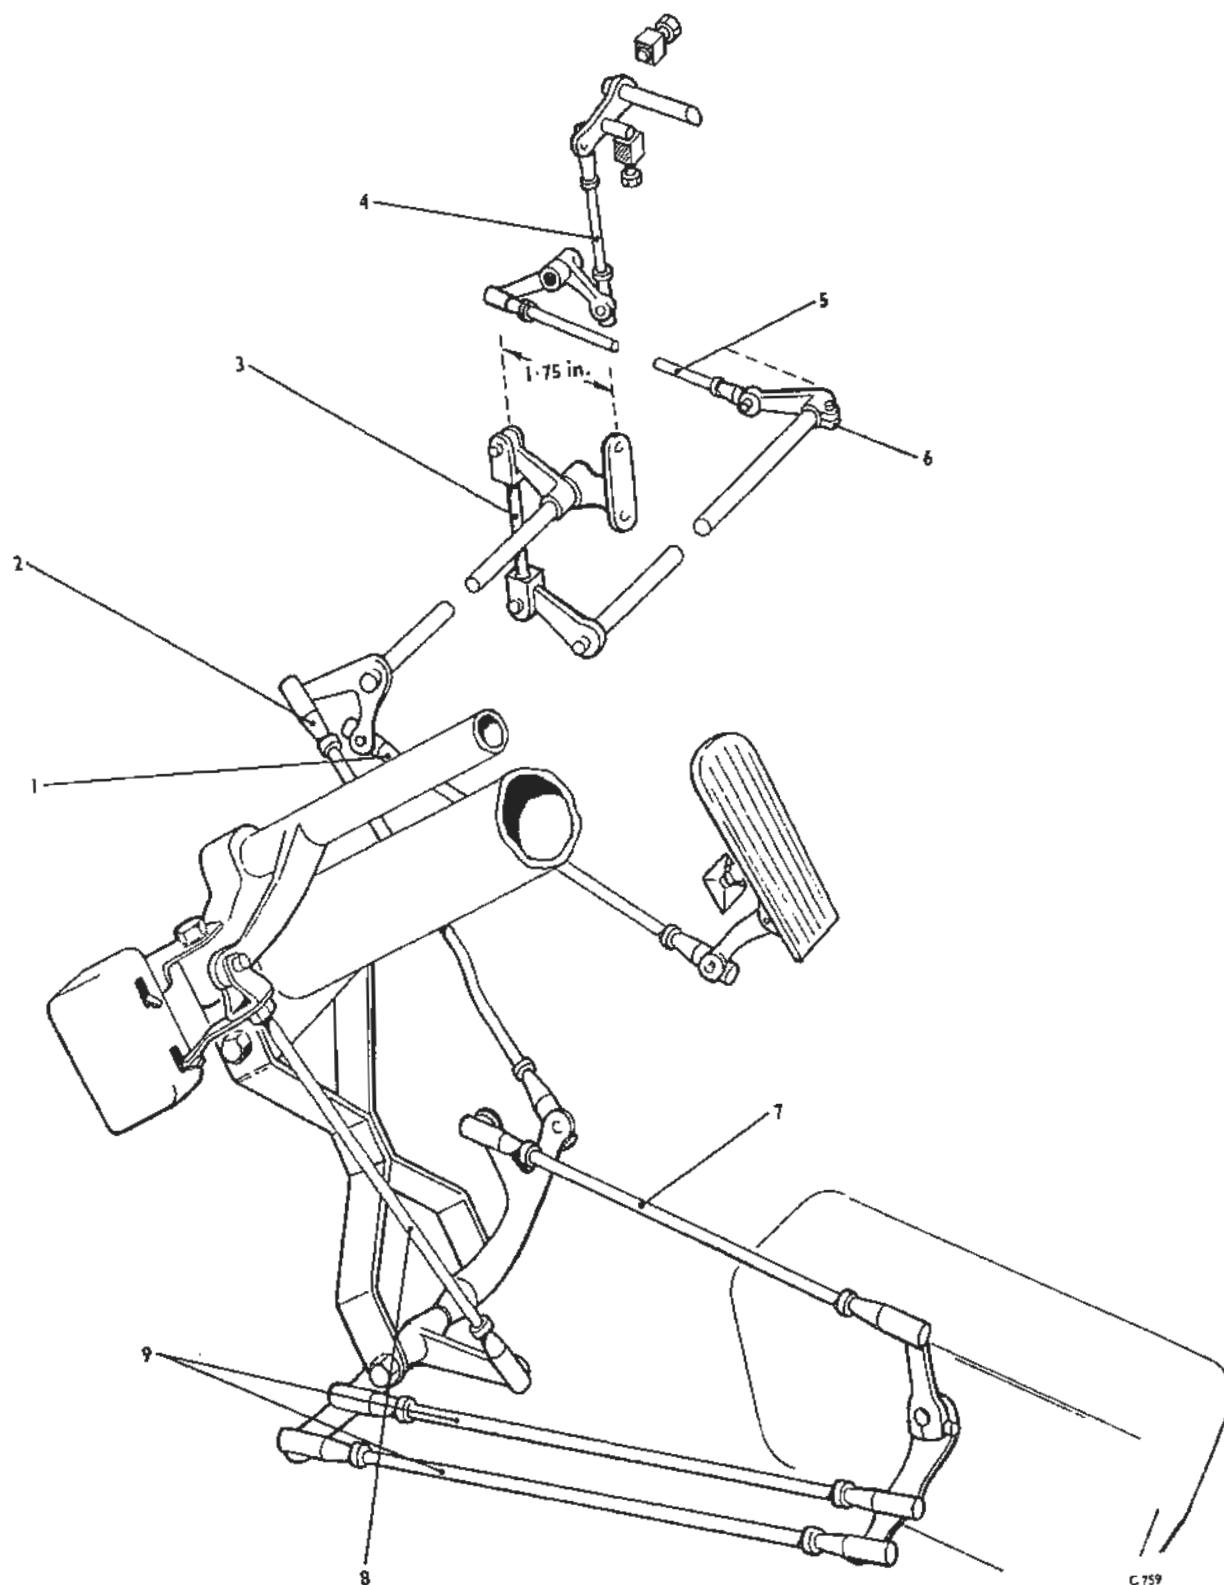

Fig. 33 T.V. and selector controls (1952 cars)
To adjust the selector control setting disconnect the accelerator to cross-shaft control rod (1) at its upper end (see Fig. 33). Select range '3' and adjust the two parallel rods (9) to bring the swinging link to a position at right angles to the steering column; these rods must be maintained at equal lengths. If necessary, adjust rod (8) to maintain the steering column control in its central position in the quadrant (range '3'). This completes the selector link setting.